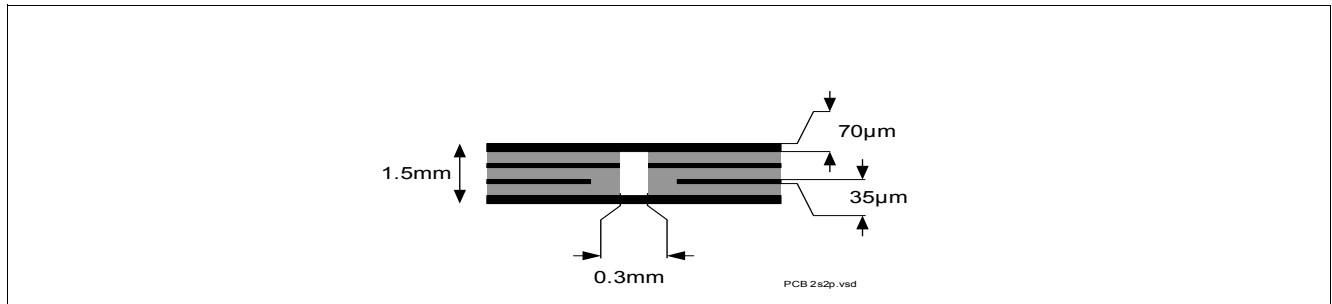

Figure 4 2s2p PCB Cross Section
- 2) Specified R_{thJA} value is according to JEDEC JESD51-2,-5,-7 at natural convection on FR4 2s2p board with 1 W power dissipation at $T_A=105^{\circ}C$. The product (chip + package) was simulated on a 76.4 x 114.3 x 1.5 mm board with 2 inner copper layers (2 x 7 μm Cu, 2 x 35 μm Cu). Where applicable, a thermal via array under the exposed pad contacts the first inner copper layer. Please refer to Figure 4.